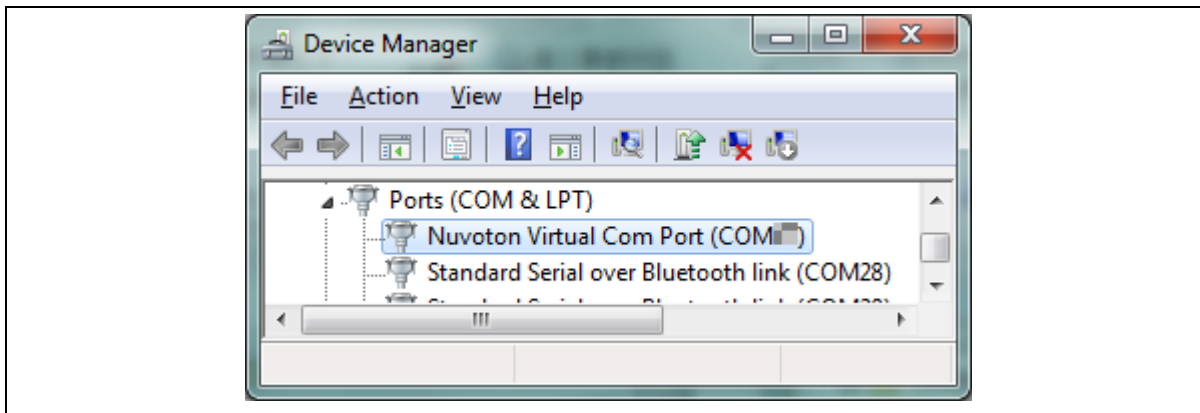

Figure 4-5 Device Manger
- Find the “Nuvoton Virtual COM Port” on the Device Manger as Figure 4-5.